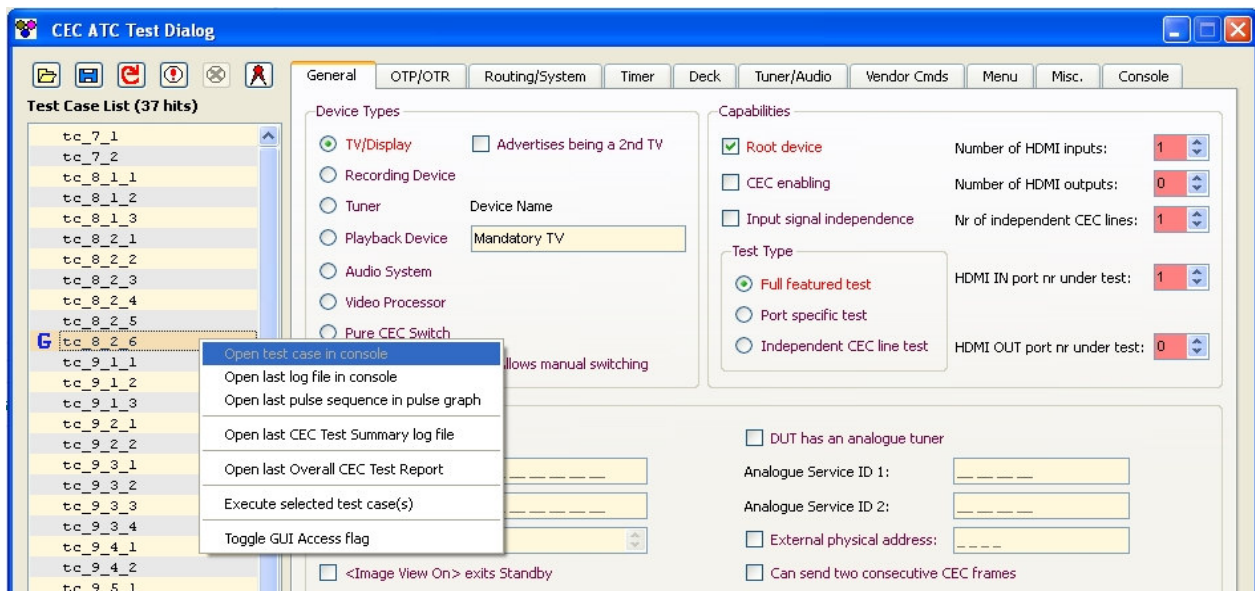

Figure 42: Context menu of test case list
For the purpose of execution, the user can select a single item, multiple items or the complete list. The execution is then started by means of the corresponding tool button (section 5.2.1.1), the shortcut key (F7) or by the list's context menu (Figure 42).
- **Open test case in console:** Opens the selected test case in the Console View. The Console View is the last Tab of the tab widget. On top of the Console View, the current content is reflected (in Figure 42, it is test case 8.2-1). This item is only available on single list selections. It might also be disabled if the CEC Explorer has not created the test case map, yet.